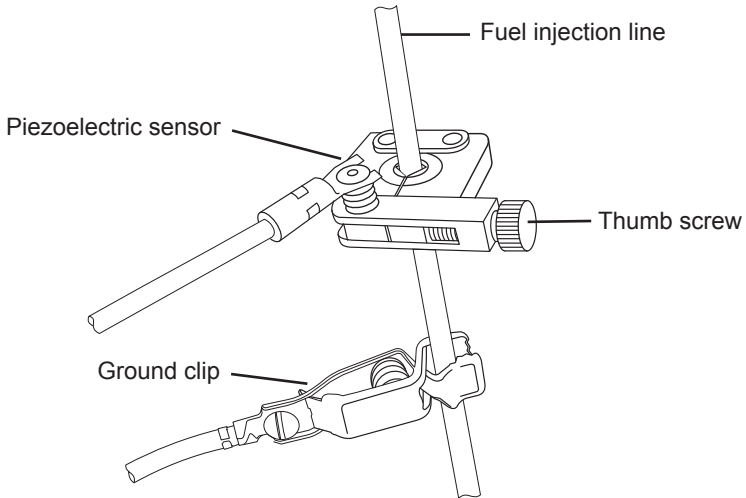

Fig. 3 - Piezoelectric sensor and ground clip on fuel line
- 1- Clamp the piezoelectric pickup onto a clean unpainted section of any diesel injection pipe. Do not over tighten the thumb screw (see Fig. 3)
- Fit the piezoelectric pickup to a clean unpainted section of an injection line. Then connect the ground clip to that same clean section of the injection line as shown in Fig. 3. or to a convenient ground in the engine. If necessary scrape and sandpaper the line in order to expose the metal surface.